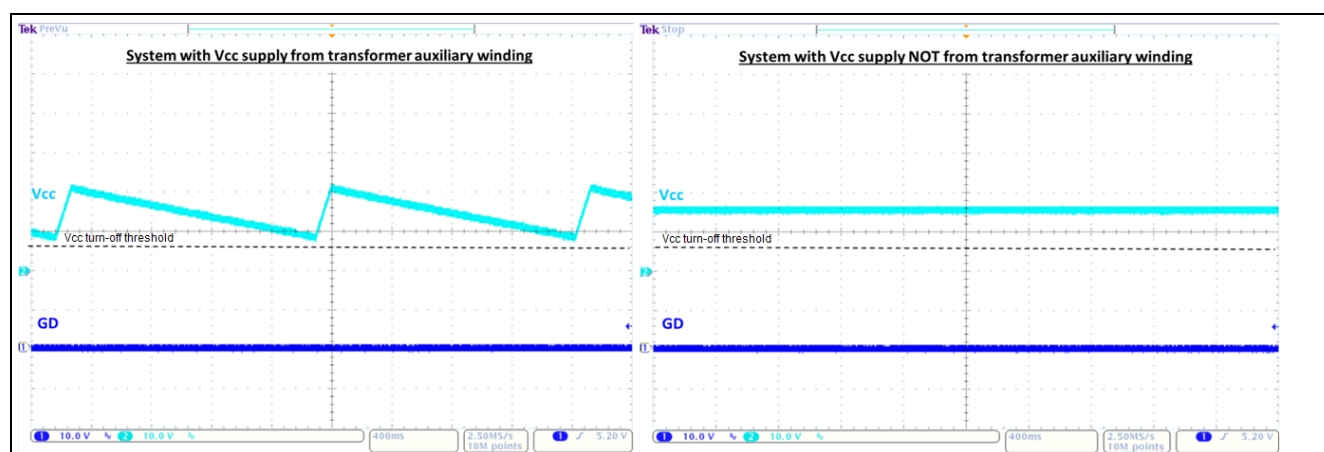

Figure 30 Waveform examples of configuration mode or system protection with latch-mode reaction
Scenario 3: If the GD pin signal stays low while V_{CC} stays above the turn-off threshold, e.g. 6 V, it means the controller has entered a protection state with latch-mode reaction or the configuration mode. See waveform examples in Figure 30.
- Disconnect the interface board before powering up the board. The most common example of false entry to the configuration mode is to power up the board while it is connected to the .dp Interface Gen2 (with the “DP2x supply” or/and “DP2x Sync” LEDs on). If that is the case, the measured waveform will be similar to the waveform example on the right of Figure 30, but with a V_{CC} level of approximately 7.5 V.